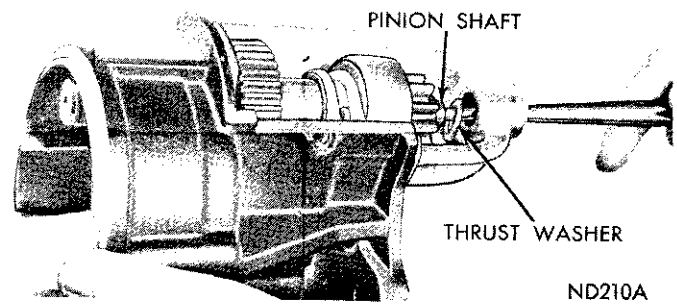

Fig. 8—Removing Pinion Shaft
(17) Push pinion shaft towards rear of housing (Fig. 8) and remove retainer ring and thrust washers,